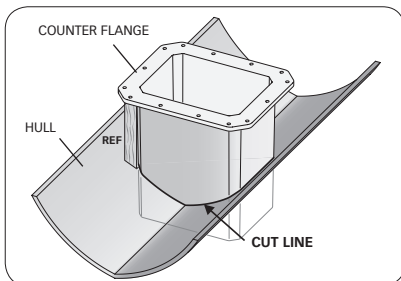

Fig. 1
Fig. 1 Position the thruster in stand-by position (closed) inside the hull, letting it rest on the tunnel flange. Detect the height (X) between the lower part of the flange and the hull.